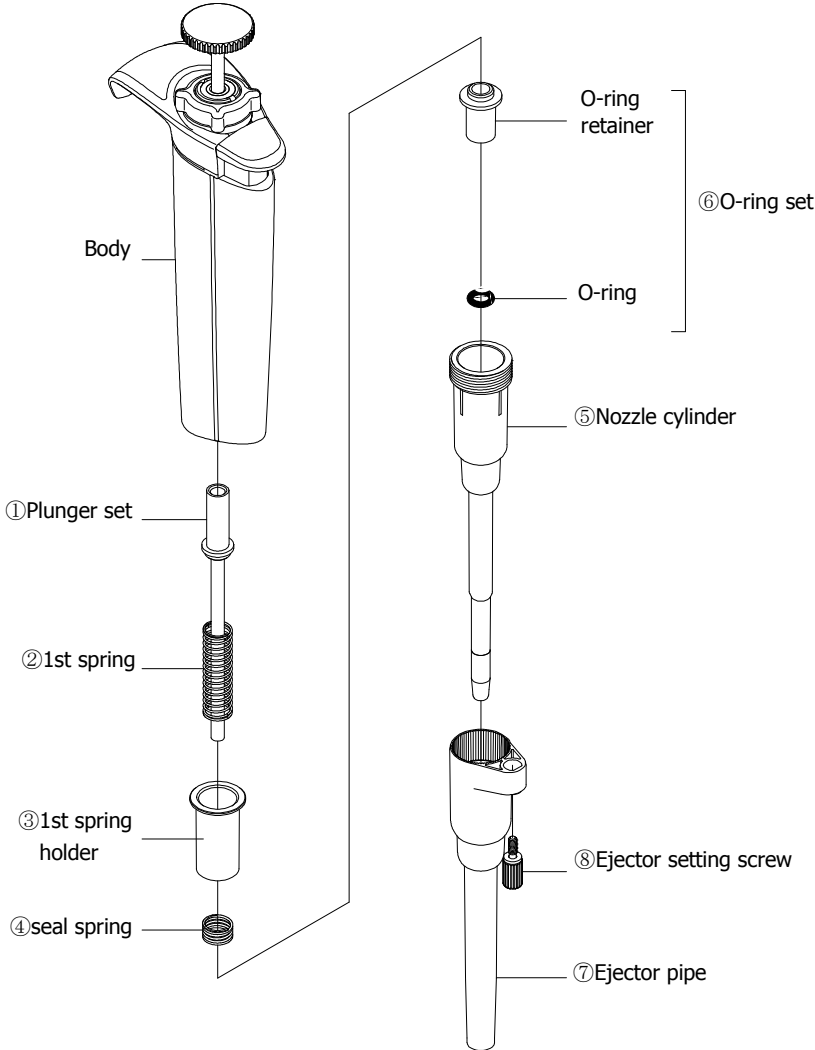
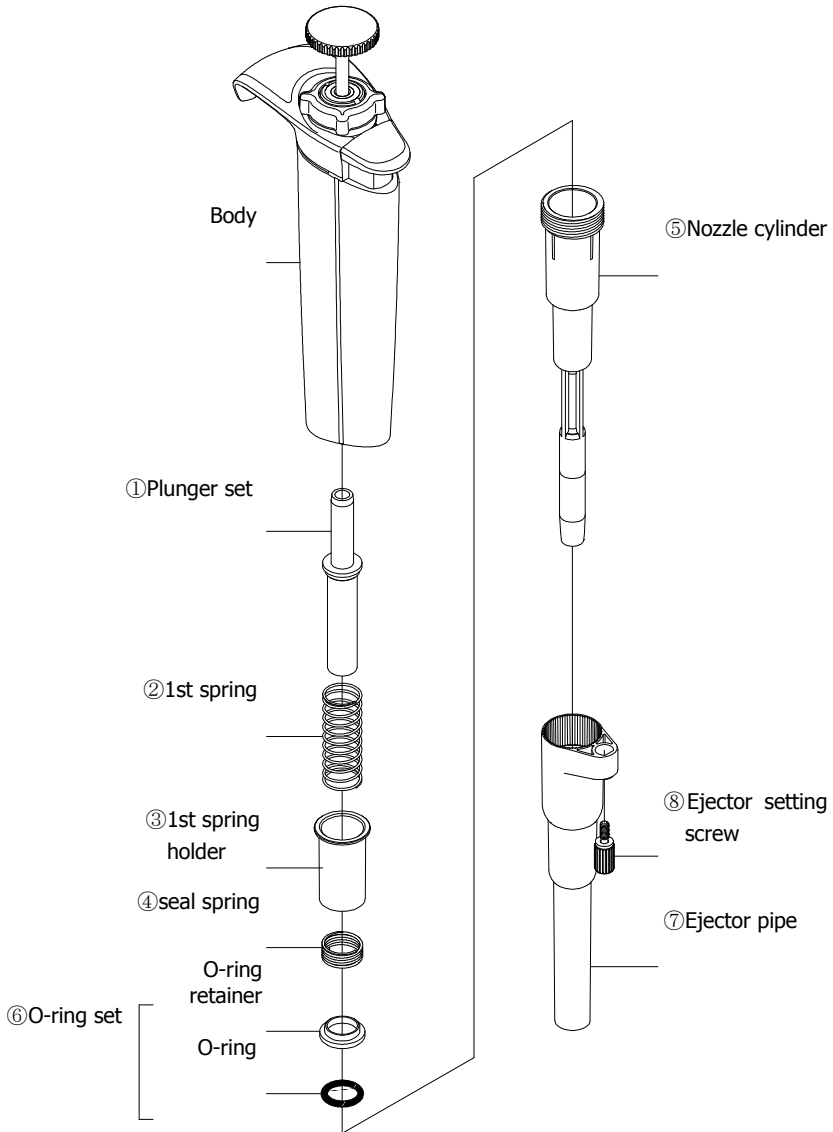

Fig. H3
Fig. H4
- 100uL, 200uL: Fig H3, 1000uL: Fig H4
100, 200uL: Fig. H3, 1000uL: Fig. H4
③ Fit the ejector pipe to the body.
- 2, 10, 20uL: Fig H1, 100, 200uL: Fig. H3, 1000uL: Fig. H4